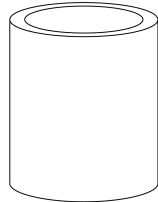

Figure 5: Qualcrimp Crimping Accessory
• Qualcrimp Crimping Accessory (Figure 5)